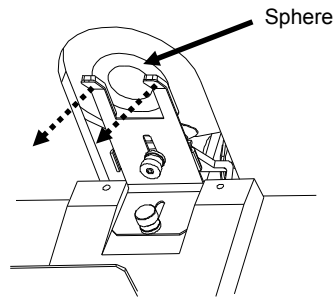

Figure 4-13. Measuring a Thin Film Sample
2. Pull back the sample retainer and place a taut thin film sample in the sample holder. See Figure 4-13.